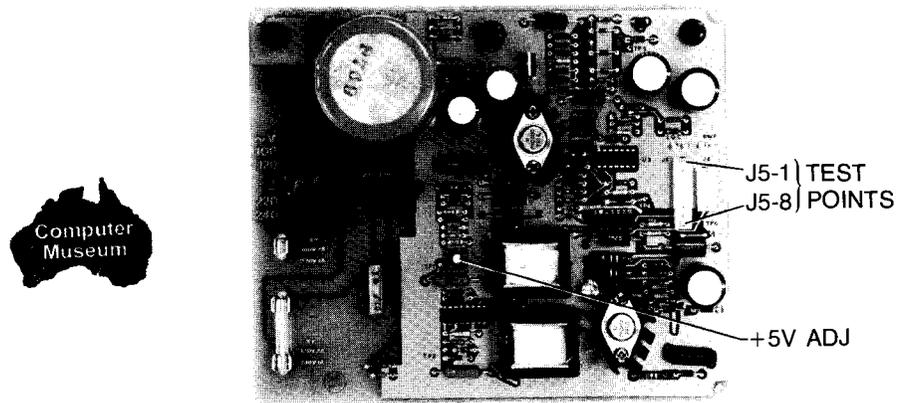

Figure 5-1. 2621A Terminal Test Points and +5V Adjustment Locations
4. Using a 20,000 ohms/volt voltmeter, check the Power Supply PCA voltages (table 5-1 and figure 5-1 or 5-2) for accuracy. A fine-tipped voltage probe can be easily inserted through the holes in the cable connector (J5).
5. Adjust the +5V potentiometer (figure 5-1 or 5-2) until the +5V and +12V (or +16.1V for 2621P) sources are within tolerance. If they cannot be adjusted to be within tolerance or if the -12V source is out of tolerance, refer to the Troubleshooting Section.